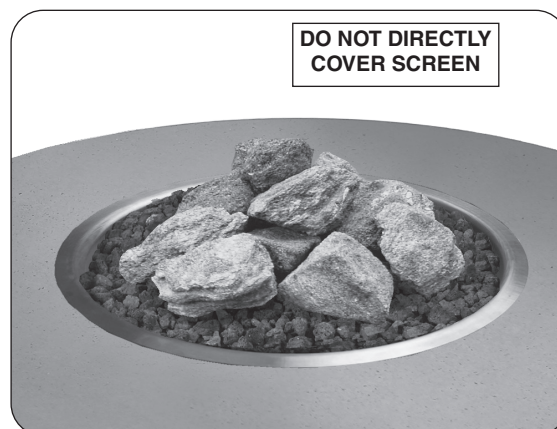

Fig. 36-2 Volcanic stones option
2. Pour the volcanic stones evenly into the burner area (see Fig. 36-2). The stones may form a mound. **Store any excess media in a safe location.**